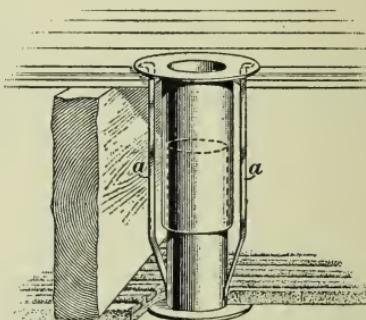

FIG. 65
**94.** Fig. 65 shows a sheet-metal telescopic sleeve for a single pipe. It is composed of two spun flanges, each attached to a sleeve. The lower flange is drawn up to the ceiling by cleats *a*, *a*, which are bent over and nailed to the floor, as shown. The upper flange and sleeve are pushed down in place over the lower sleeve, as shown; the upper flange is wide enough to conceal the cleats. An air space of 1 inch or more should exist between the sleeve and the steam pipe.